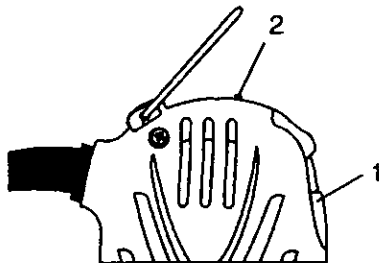

Fig. 1
This cutting tool is equipped with a sliding ON / OFF switch (1) located on the side of the tool and a speed control switch (2) located on top of the tool (see Fig 1)